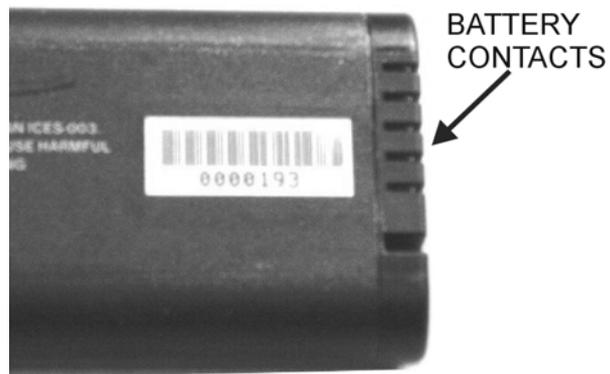

Figure 4-5. Battery Contacts
5. Replacement is the opposite of removal. Note the orientation of the battery contacts, and be sure to insert the new battery with the contacts facing the bottom of the unit, see Figure 4-5.